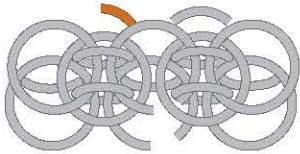

FIG. 9
8. Thread a small (green) jump ring onto the large jump ring just added. Arrange the small jump rings as shown in **FIG. 9** and close the jump ring (**FIG. 10**).